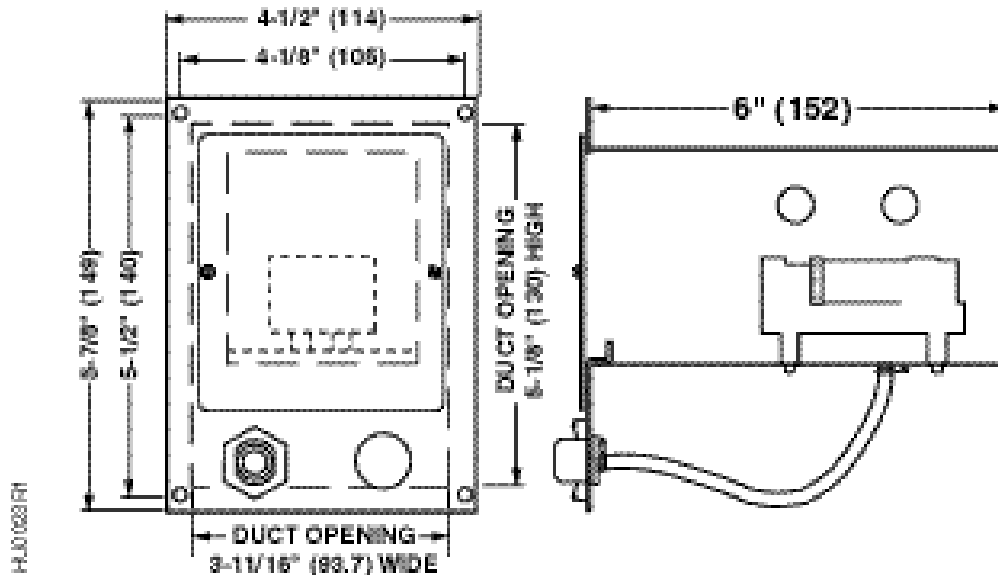

Figure 5. Mounting Dimensions for Duct Transmitter.
Size	See Figure 5
- b. **Duct Type** (See Figure 5)